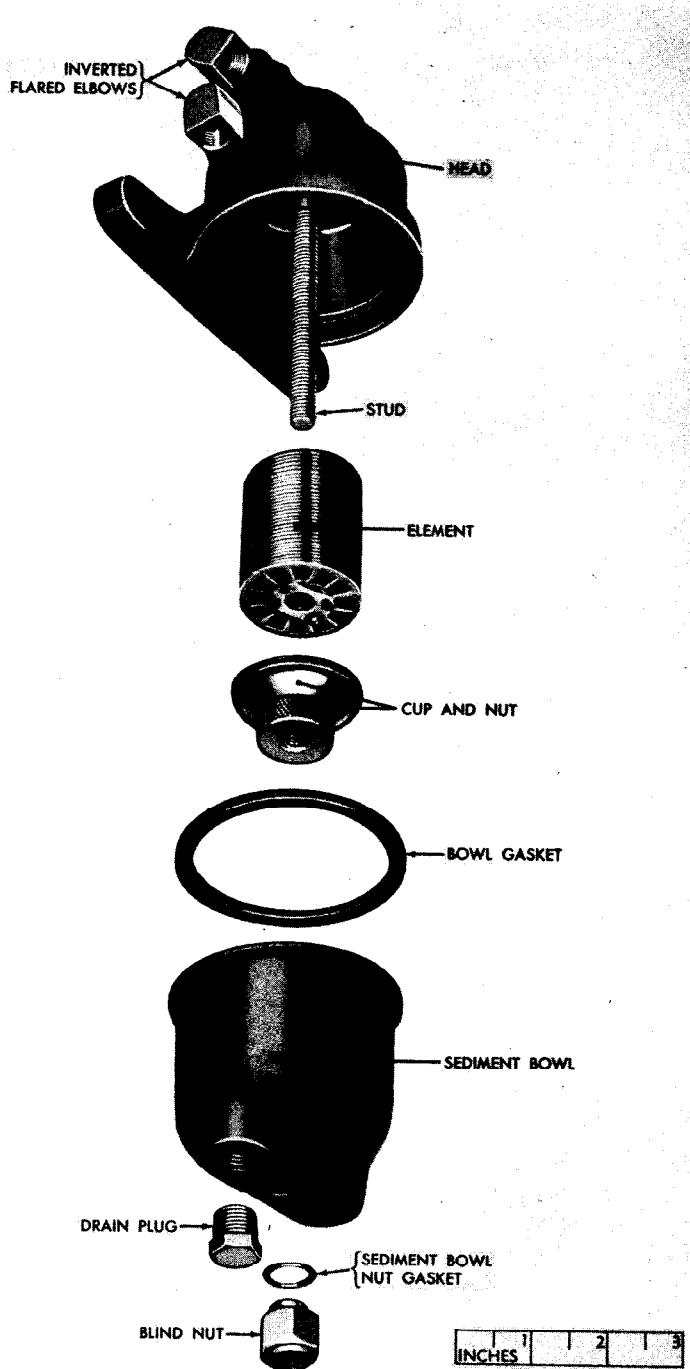

Figure 107. Fuel filter (early-type)—exploded view.
- (1) Remove the sediment bowl blind nut and gasket and remove the sediment bowl and bowl gasket (fig. 107). Discard the gaskets.
- (2) Unscrew the cup and nut from the stud and remove the element.
- (3) Clean all parts in dry-cleaning solvent or volatile mineral spirits and allow to dry.